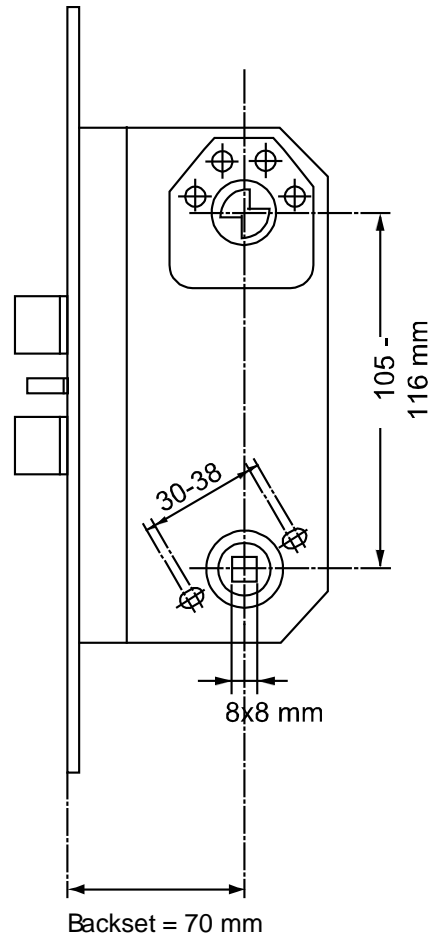

Fig. 3 CD30 door mounting
5. Prepare the handle by extending the screws with the supplied extension sleeves (M4 or M5). See figure 3.